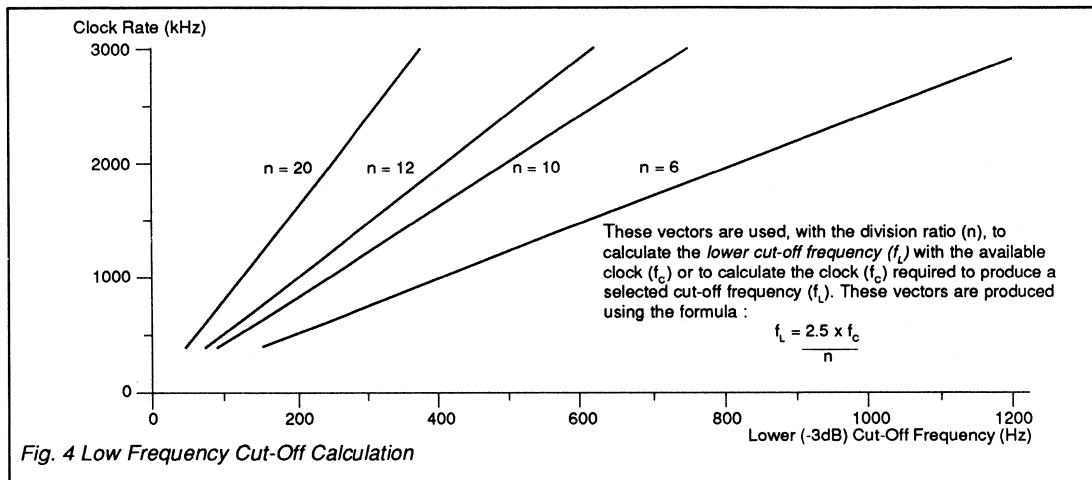

Fig. 4 Low Frequency Cut-Off Calculation
1. These frequency limits are those at which the High or Low cut-off frequencies are in accordance with the formulas described in Figures 4 and 5.